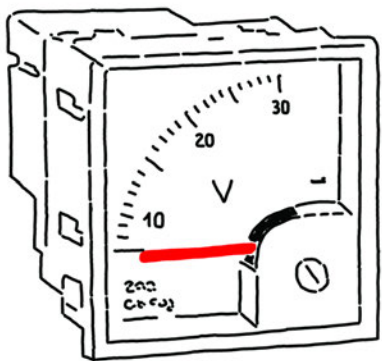

Figure 15-4 *An analog voltmeter; it doesn’t look too different from the ammeter*
The unit of measurement of electrical “pressure,” or voltage, is *volt* (V), from Alessandro Volta, inventor of the very first batteries and a pioneer in the study of electrical currents. The tool used to measure voltage is called a *voltmeter* (Figure 15-4). Table 15-2 lists the voltages required by some common electrical devices.